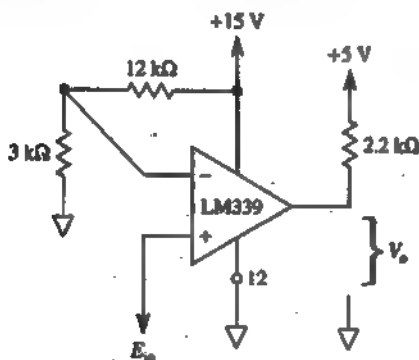

FIGURE P2-16
- 2-16. In Fig. P2-16, E_{in} is a triangle wave. The amplitude is -5 V to $+5$ V and the frequency is 100 Hz. Sketch